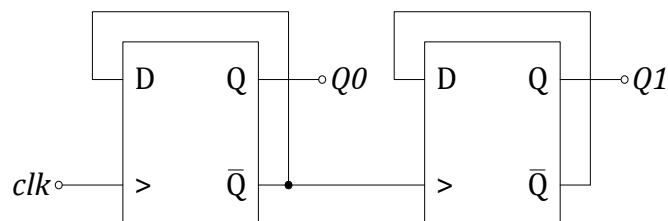

FIGURE 1: A divide-by-four ripple counter.
The schematic for a divide-by-four ripple counter is shown in Figure 1 (in this configuration, the counter counts down rather than up). Each output changes at a different time relative to the clock – the output changes ripple along the chain of flip-flops, giving the configuration its name.
-  Consider the counter shown in Figure 1. Assume that both outputs Q0 and Q1 are currently at 'logic 1'. Estimate the delay in Q1 changing to 'logic 0' after the next rising edge of the clock.
Put your traffic light controller to one side (do not dismantle it, as the demonstrator will want to see it working when they mark the lab). Using your other protoboard, build the circuit for the divide-by-four ripple counter shown in Figure 1, and connect the clock input to a 0-5V 100 Hz square wave.